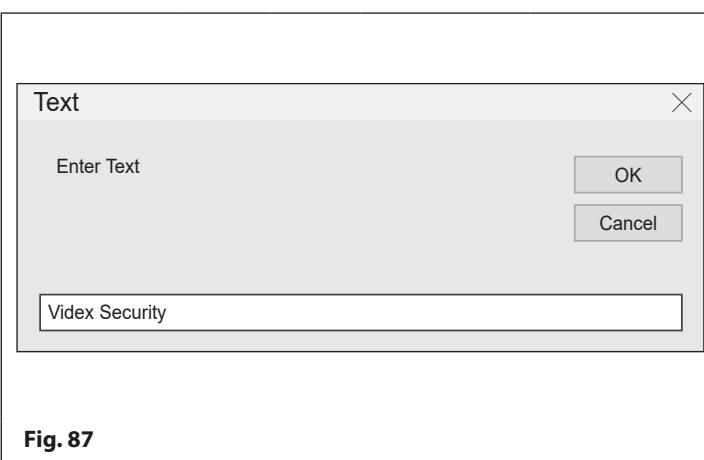

Fig. 87
- Once the desired position has been located click the left mouse button and the text window will appear, as shown in **Fig.87**.